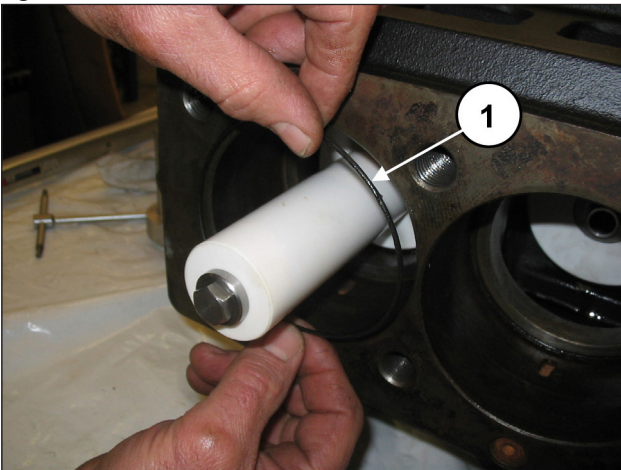
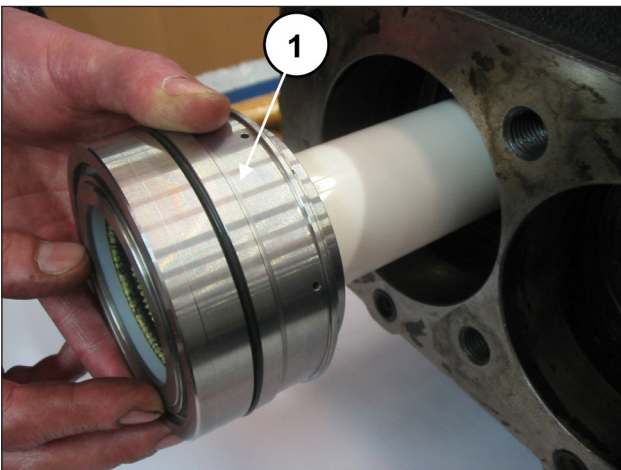

Fig. 179
Fig. 180
Insert the O-ring inside the pump casing (pos. ①, Fig. 179) and then the previously-assembled liner-seal support block (complete with the same O-ring) to end stroke (pos. ①, Fig. 180).